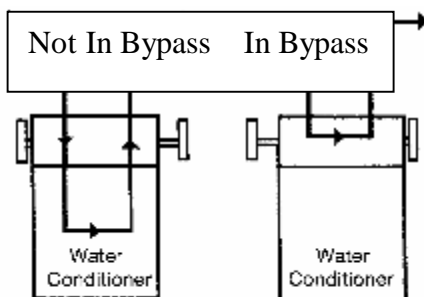

Figure 3 – Typical Illustration of a Bypass Valve
3. **Diagnostic Position:** The inlet handle points in the direction of flow and the outlet handle points to the centre of bypass valve, system water pressure is allowed to the control valve and the plumbing system while not allowing water to exit from the control valve to the plumbing.(Figure 3)